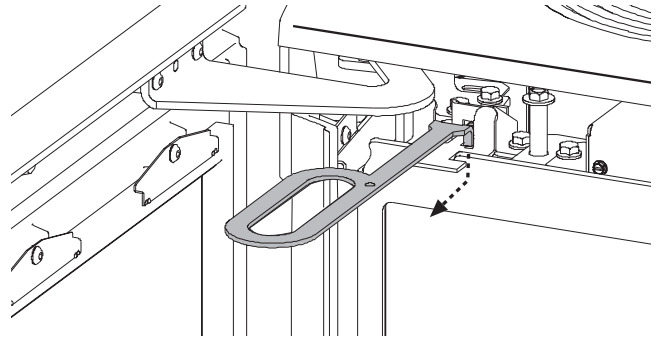

Figure 1.
2. Open the door and release the glass frame latches to remove the glass frame and open the firebox. Tilt the glass frame forward and lift it out of the stove. See fig. 1.